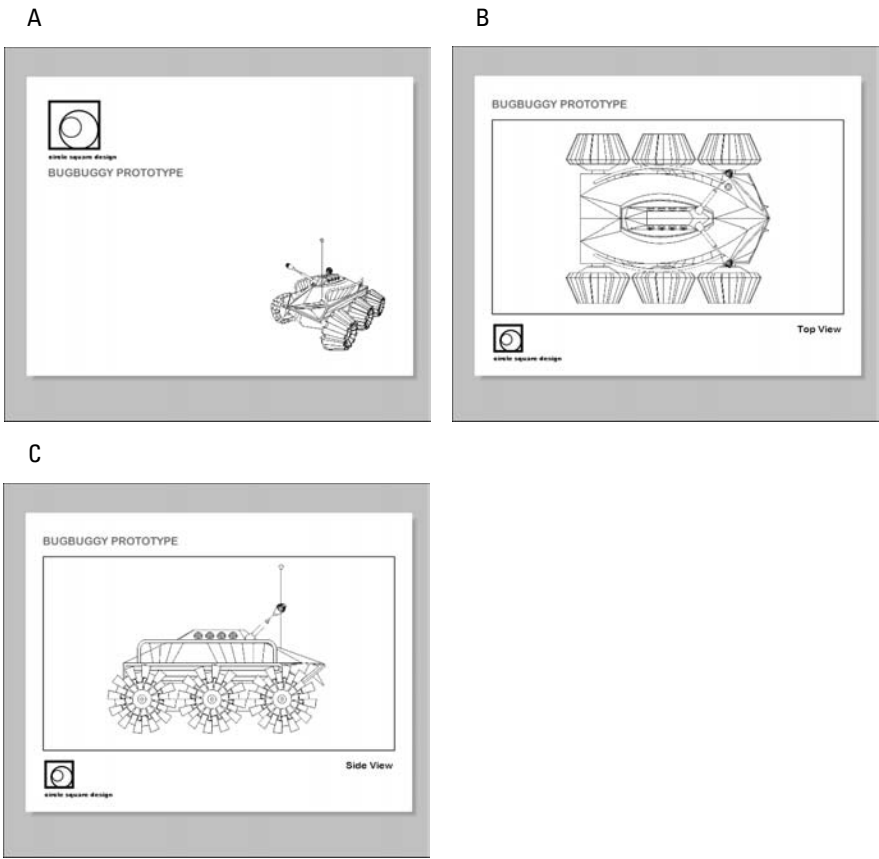
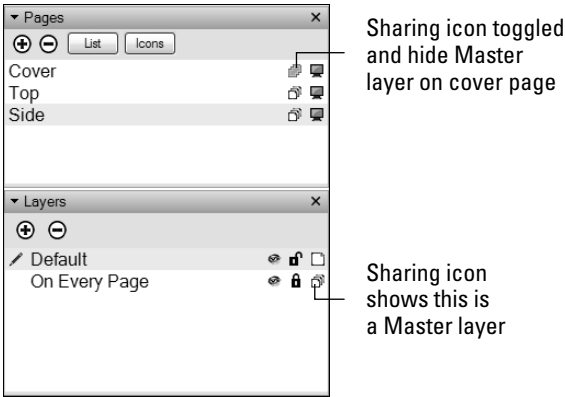

Figure 15-6:
Figure 15-7:
- ✓ **You can make an element (like a logo) appear in the same spot on more than one page by putting it on a master layer.** For example, the logo and the project title need to appear in the same spot on every page; I put these two elements on the master layer called “On Every Page.” In Figure 15-6, note how the logo and project title appear in exactly the same place in the pages labeled B and C.
- ✓ **You can make any layer a master layer by clicking the Sharing icon to the right of its name in the Layers dialog box. (See Figure 15-7.)**
- ✓ **You decide which pages should display master layers by toggling the Sharing icon to the right of their names in the Pages dialog box.** For example, I don't want the logo and the project title to be on the cover page (labeled A in Figure 15-6). I toggle the Show Master Layers icon beside the cover page to Off, as shown in Figure 15-7.